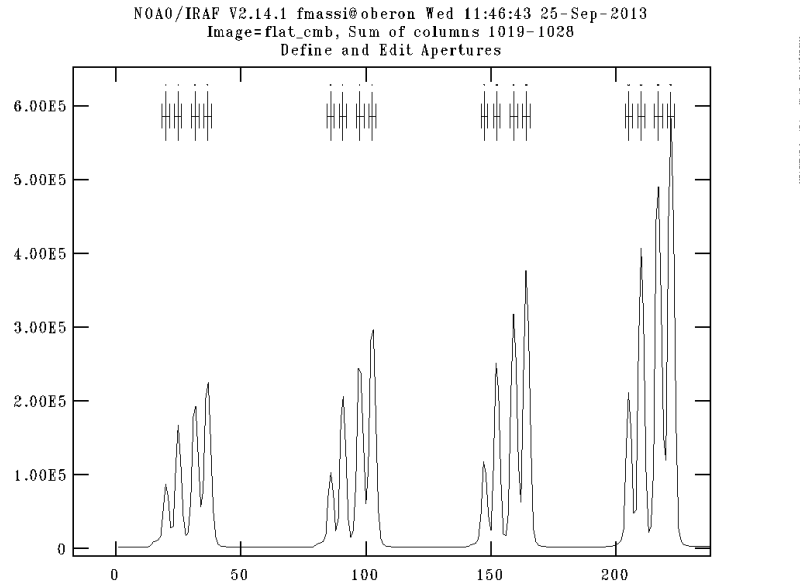

Figure 21: Graphic window showing the apertures found, after zooming using the graphic commands as explained in the text.
After starting GIANO_FIND_TRACE, APFLATTEN, or DOECSLIT, you will be asked a few questions, always answer “yes”. Then, the graphic window will open and the first thing you will be shown is a section of the frame along the central column, like in Fig. 20. You can see all orders as peaks and, on top of the panel, the aperture intervals marked by horizontal segments joining small vertical bars and labelled by numbers. You may want to check that the aperture intervals are correct, so you had better zoom in on parts of the image. In Fig. 21, the zoom-in shows the correct numbering: all four peaks corresponding to the sub-tracks of the same order must be labelled and numbered for every order (sometimes order 81 is also visible; it must not be labelled), and no aperture interval segment must fall in areas between subsequent orders. Figure 22 shows a zoom-in on the highest orders; order 81 is not marked, this is ok (sometimes even half of order 52 is also visible), and the four sub-tracks of order 80 are numbered from 193 to 196, this is ok as well. If not so, the aperture finding algorithm failed for some reason and you must check in depth.
2. to enlarge the view, first type “w”; then move the cursor marker to the lower left corner of the area you want to enlarge and type “e”. Finally, move the cursor marker to the upper right corner of the area you want to enlarge and type again “e”. Figure 21 shows an example of the result of this sequence of commands.